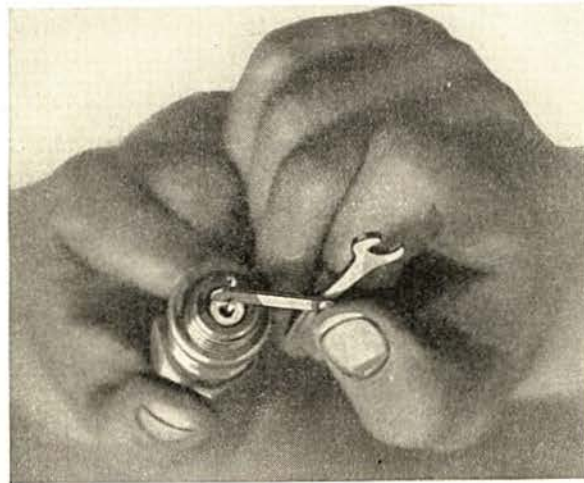

Figure 23
2. Spark Plug Gap — Remove each of the four spark plugs. Clean with kerosene and adjust gap if necessary. This gap should be $\frac{1}{2}$ of an inch (the thickness of a worn dime). Use magneto wrench or feeler for this purpose. (See Fig. 23.)